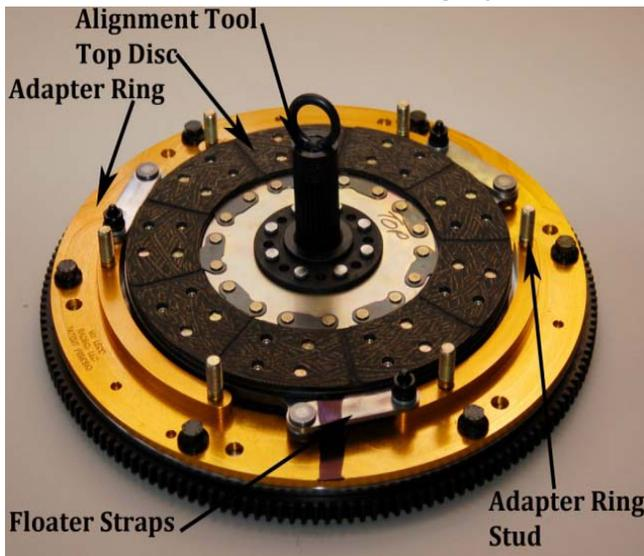

Figure 5
- 6) 4.6L and 5.4L Ford Modular engines require the installation of the supplied dowel pins (3) into the factory flywheel. GM LS engines require the installation of 2 of the supplied dowel pins into the factory flywheel. Place adapter ring on flywheel, with the floater attached, using OEM pressure plate bolts. **(Some kits are supplied with new bolts for attaching adapter ring. In these cases use these bolts as they provide necessary clearance.) (Do not use Loctite!)** Do not add any washers to any locations if they were not present with the McLeod clutch assembly! Torque these bolts to factory specs. Note: If the floater was removed from the adapter ring re-torque all 5/16” nuts to 25 ft/lbs.
- 8) Install the top disc using the alignment tool and be certain it fully engages the pilot bearing to correctly center the discs. Figure 5